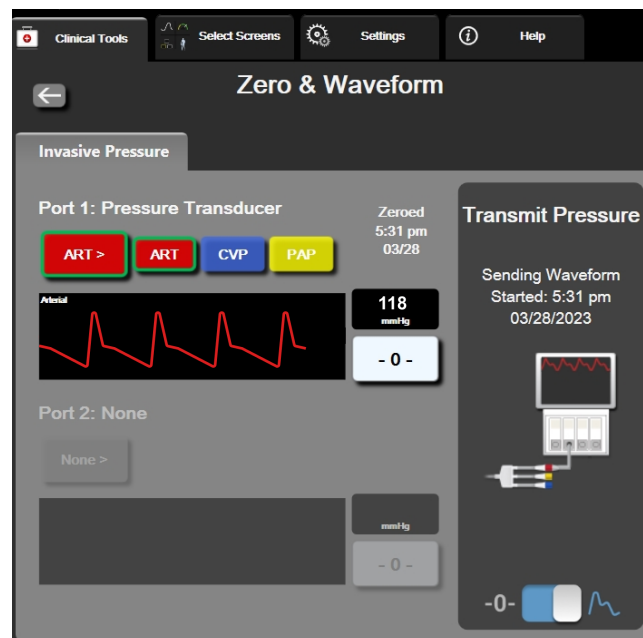
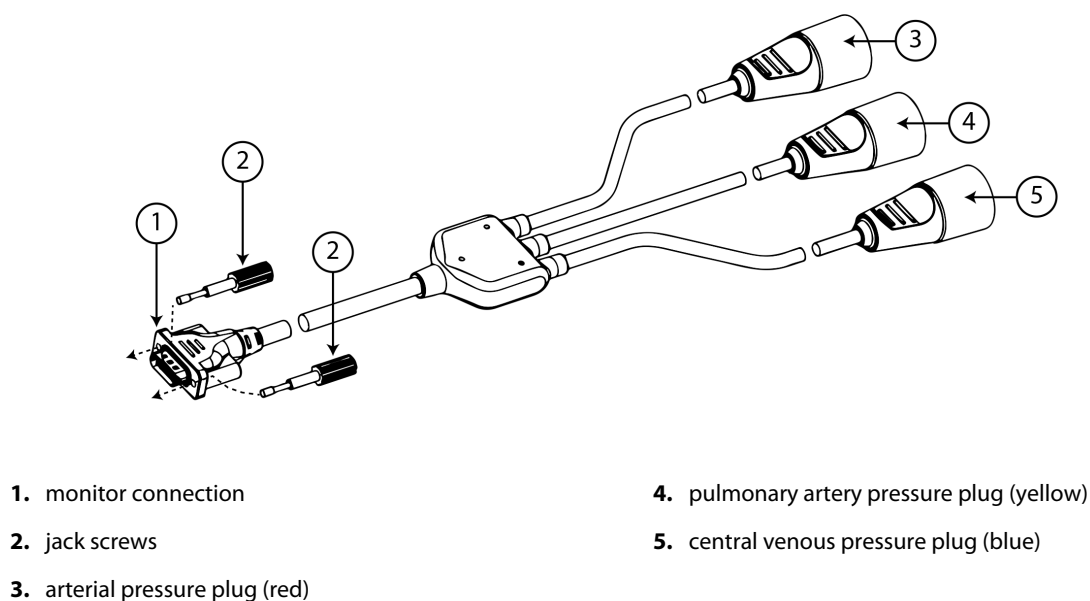

Figure 10-2: Zero & Waveform screen – Zero sensor and Pressure-Out
Figure 10-3: HemoSphere pressure-out cable
1. Plug the 18-pin connector of the HemoSphere pressure-out cable (see (1) in Figure 10-3 on page 199) into the rear panel of the monitor at the pressure out port denoted by the analog out symbol . See (9) in Figure 3-2 on page 72.
2. Use the two jack screws to properly secure the pressure-out cable plug in place. See (2) in Figure 10-3 on page 199.
- arterial pressure (AP, red, (3))
- pulmonary artery pressure (PAP, yellow, (4))
- central venous pressure (CVP, blue, (5))Ensure that the selected connector is fully engaged. Refer to the patient monitor instructions for use.
6. Toggle to the **Transmit Waveform** icon  to begin pressure signal output to the patient monitor. A "**Sending Waveform Started:**" message with the timestamp is displayed when the live waveform is being transmitted to the connected patient monitor. See Figure 10-2 on page 198.